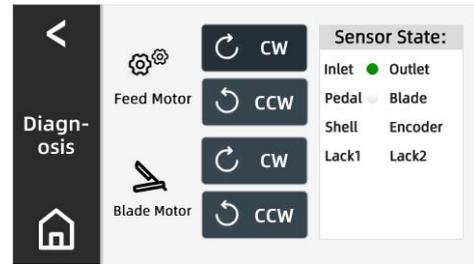

Figure 7a
1) Press  on Home and input password: **32584** to enter Diagnosis interface (Figure 7a),